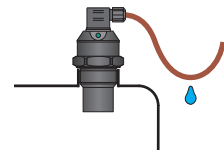

Fig. 16: Protection against penetration of moisture
- It is advisable to keep cable under the **cable gland** (sagging down) as shown in Fig. 16 to prevent penetration of moisture. Rain and condensing water can be therefore drained away freely.